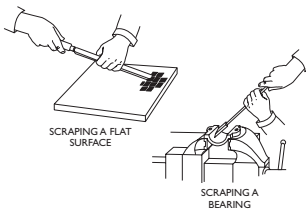

Fig. 13-3
4. Scrape the high spots on the work piece, which are colored with the dye where they touched the surface plate (Fig. 13-3).
3. Scrape the high spots in the bearing, which are colored where they touched the shaft journal (Fig. 13-3).